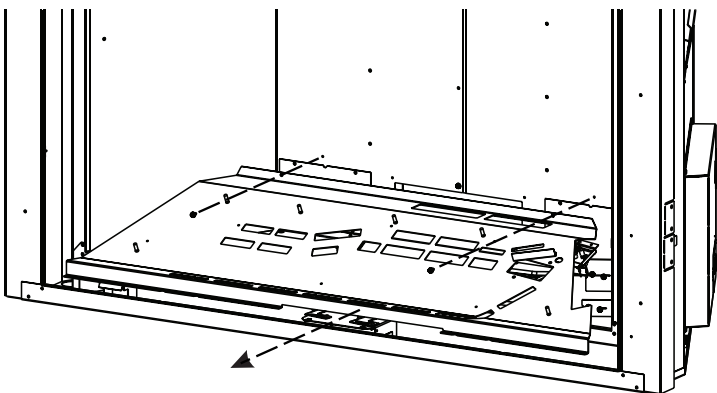

Figure 4
4. Remove (2) screws holding pilot assembly to burner pan. This will allow pilot assembly to drop.
5. Remove (2) screws holding burner base in place. Lift burner base out of firebox. **See Figure 4.**